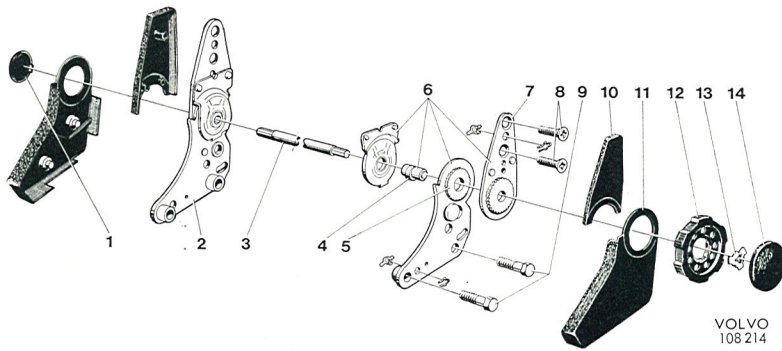

Fig. 8-54. Seat reclining mechanism
1. Remove the cover (14, Fig. 8-54) by pressing it out through the hole in the hand wheel. See Fig. 8-52.
2. Remove the hand wheel (12, Fig. 8-54) by turning the lock (13) counter-clockwise as shown in Fig. 8-53.
3. Remove the plastic covers (10 and 11, Fig. 8-54).
4. Remove the screws (8 and 9, Fig. 8-54) and remove the lever unit.
2. Install the shaft in the bracket square hole and attach the mechanism to the seat back with the screws 8, Fig. 8-54.
3. Attach the lever with the 8-edged hole on the shaft in a position where the lever holes are aligned to the nuts in the seat back. Attach the lever to the seat back with the screws 8, Fig. 8-54.
4. Attach the seat back with the mechanisms to the seat frame with the screws 9, Fig. 8-54.